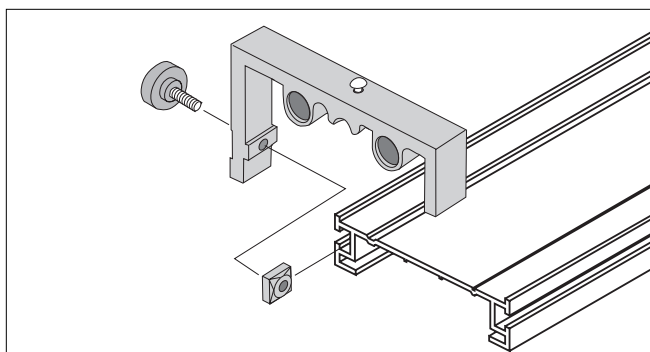

Figure 5: Attaching the Adjustable End Stop to the Track
- Align the square nut within the groove on the desired side of the Dynamics Track (Figure 5). Locate and adjust the end stop to the desired position and tighten the thumb screw to secure.